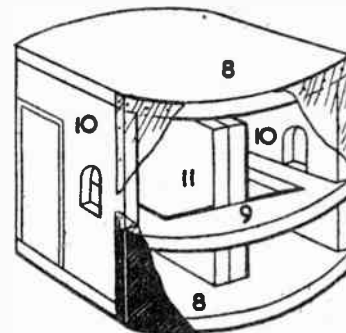

Fig. 2—The central booking office
Next prepare the Booking Office (B—parts 8 to 11). The construction is shown at Fig. 2. Note the door is painted on one side only, with the ticket openings opposite each other. The two pieces (11) glued together stand upright on the floor close to the back of (9) shown dotted in the pattern.